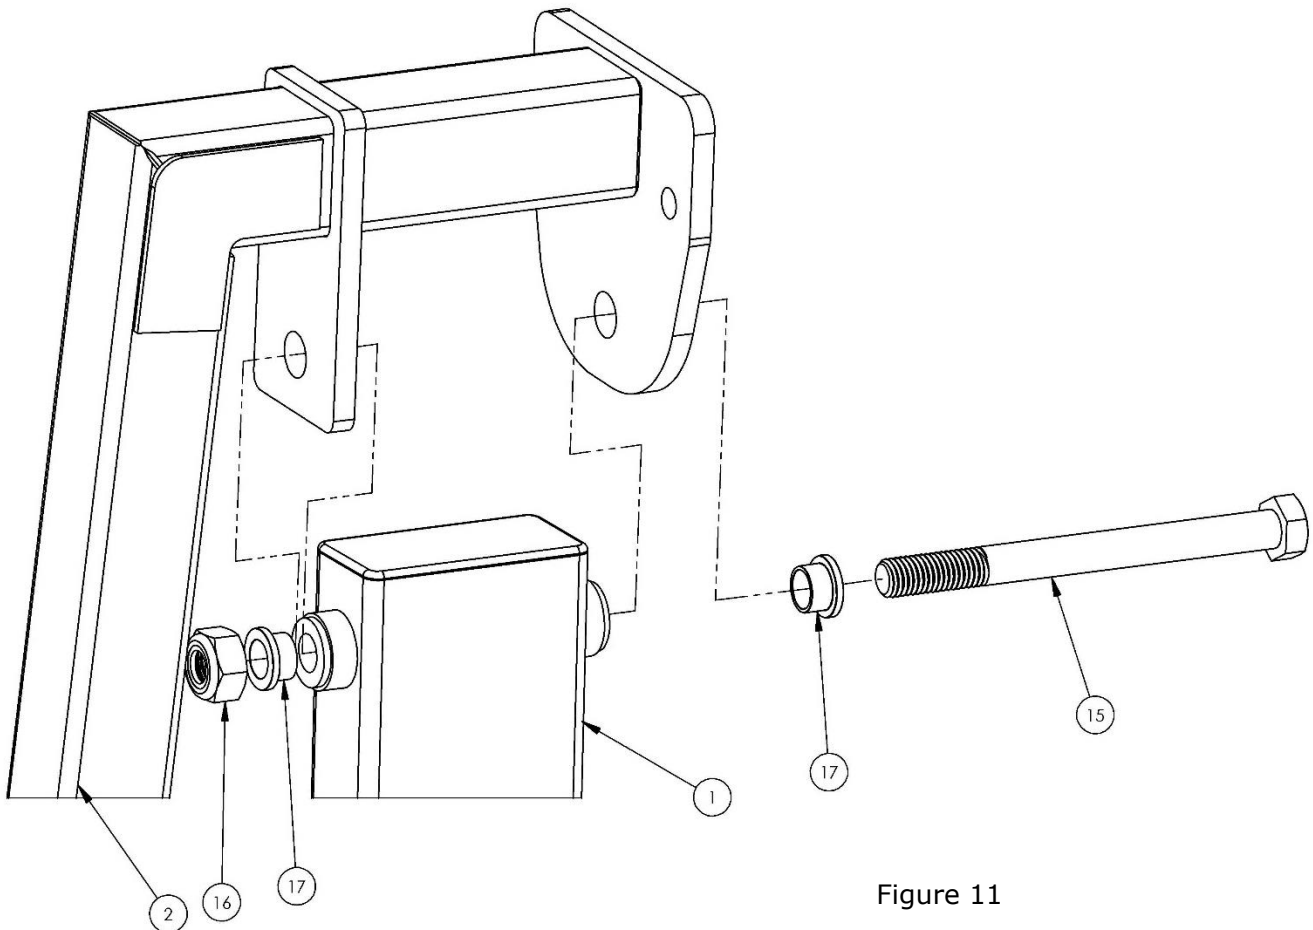

Figure 11
14. Install the lift seat arm to the multiLift2 assembly by using Hardware Kit 580-7100 as shown in Figure 11: